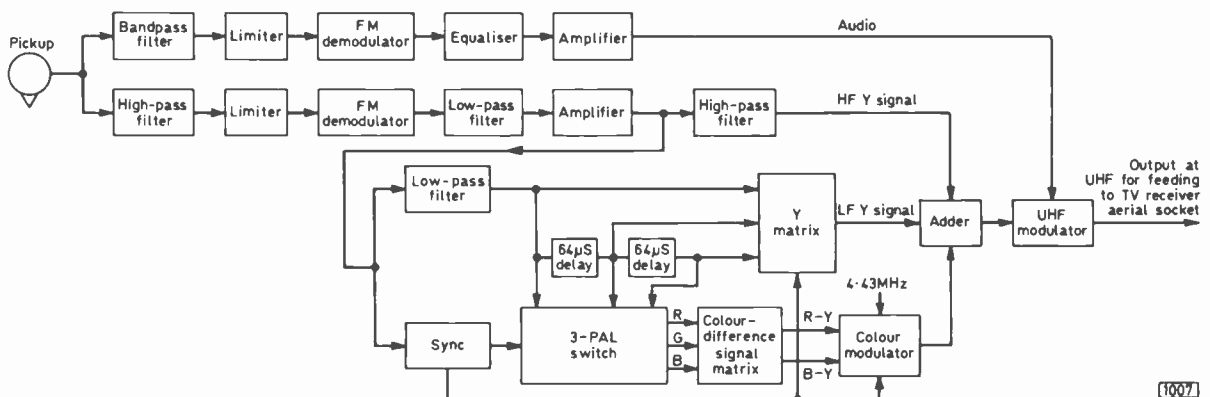

Fig. 1: Block diagram of a TeD videodisc player
Because of the inevitably restricted bandwidth (< 3MHz) standard PAL (or NTSC) encoding cannot be used. Instead a system called 3-PAL has been developed and an advantage claimed for this is that it is very tolerant of timing errors. In addition to the sound and luminance (Y) signals, three primary-colour signals are recorded in sequence line by line in the band below 0.5MHz. The basic replay signal processing is shown in Fig. 1. The pickup provides a composite vision plus sound signal of about 20mV amplitude. The sound signal is separated by means of a bandpass filter while the video signal channel has a high-pass filter at its input. After demodulation and amplification the h.f. component of the video (Y) signal is separated by means of a high-pass filter and fed to the adder. A low-pass filter separates the l.f. video signals and feeds them to the l.f. Y matrix and to the 3-PAL switch. Since the three colour signals are recorded sequentially line by line two line duration (64µS) delay lines are used to make them available to the l.f. Y matrix and the 3-PAL switch simultaneously. The Y matrix delivers the l.f. component of the luminance signal to the adder while the 3-PAL switch delivers simultaneous R, G, B signals to the colour-difference signal